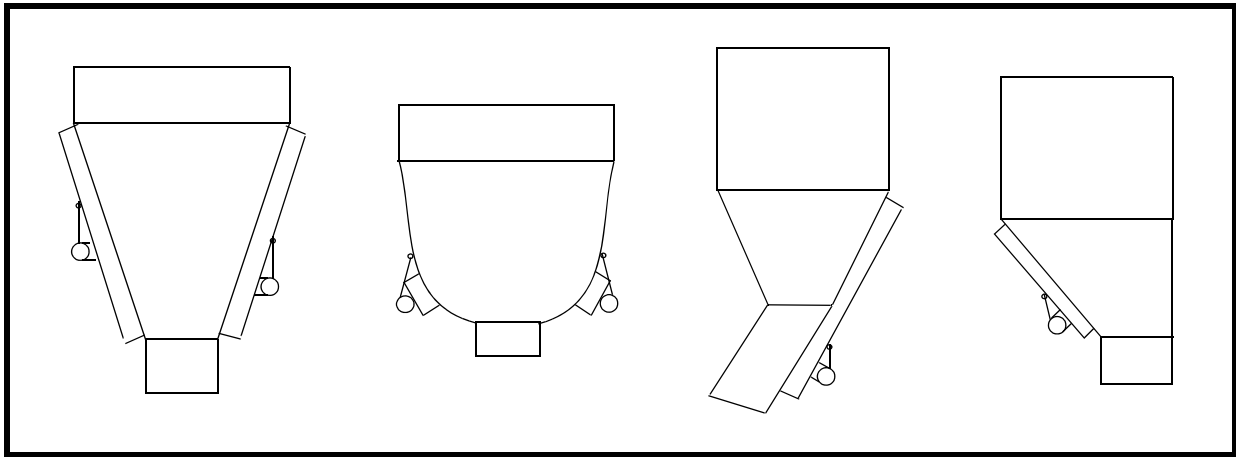

Figure 1. Locating Vibrator on Hoppers
1. See Figure 1. Locate vibrator in lower 1/4 to 1/3 of structure slope length. If second vibrator is required, mount 180° from first vibrator and halfway up slope.
- b. Locate beam so that vibrator can be positioned as shown in Figure 1.